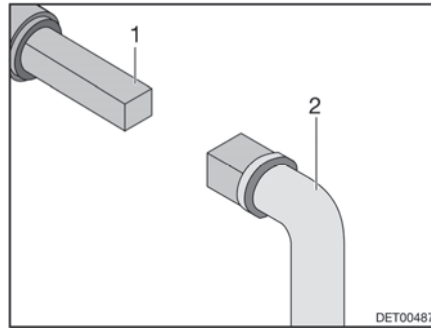

Fig. 77 Operation of the waste water tap
- Place key (Fig. 77,2) onto the square bolt (Fig. 77,1).